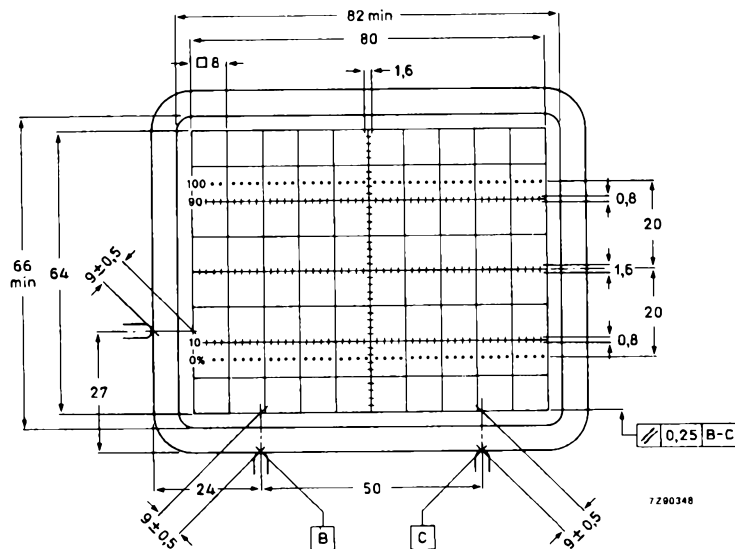

Fig. 4 Front view of tube with internal graticule, type 119.
- (1) Dimensions of faceplate only. The complete assembly of faceplate and cone (frit seal included) will pass through an opening of 101 mm x 85 mm.
- (2) The coil is fixed to the envelope with resin and adhesive tape.
- (3) The length of the connecting leads of the rotation coil is min. 350 mm.
- (4) Reference points on faceplate for graticule alignment (see Fig. 4).
The internal graticule is aligned with the faceplate by using the faceplate reference points, see Fig. 4. See also note 1.
1. As the frit seal is visible through the faceplate, and not necessarily aligned with the internal graticule, application of an external passe-partout with open area of max. 82 mm x 66 mm is recommended. The internal graticule is aligned with the faceplate by using the faceplate reference points (see Fig. 4).